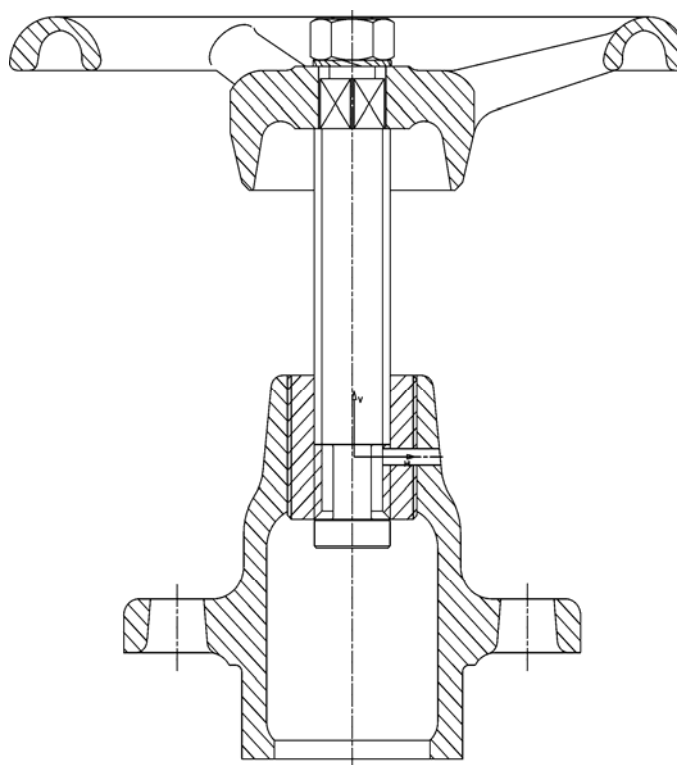

Fig.5
- *Clamp the bonnet in the vice unscrew the threaded bush using spindle and hand wheel (see Fig. 5)*